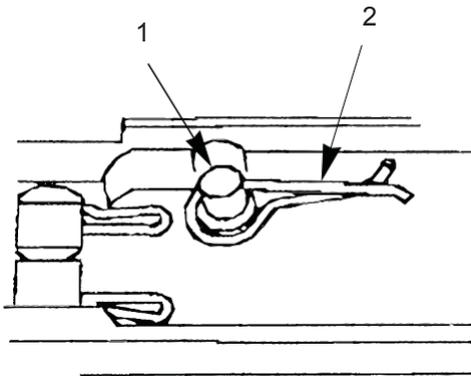

Figure 57. Spring, Feed Lever Pivot.
29. Lift straight leg over hooked leg of spring (Figure 57, Item 2). Install loop of spring (Figure 57, Item 2) over the base of feed lever pivot (Figure 57, Item 1) with legs of spring (Figure 57, Item 2) pointing forward and down. It may be necessary to use a screwdriver to force loop over base of feed lever pivot (Figure 57, Item 1).